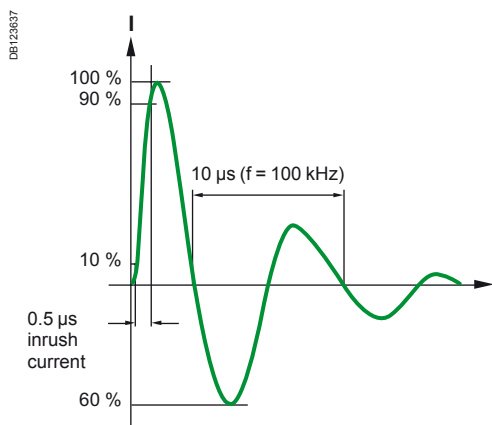

Fig. 1: 0.5 μ s/100 kHz normalised current waveform
- Switching on capacitors creates a transient inrush current similar to that shown in Fig. 1.